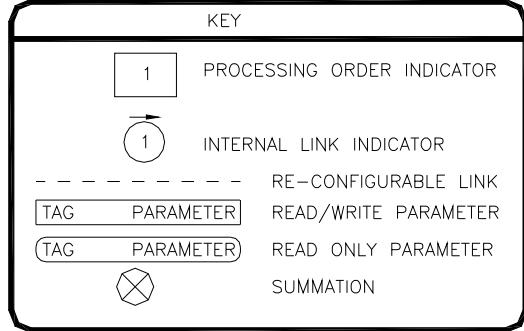

Figure 3: Software Block Diagram Key
Programming and adjustment of the Cortex[®] LT is accomplished by changing parameter settings via the one of the serial port COM connections. Each parameter has a descriptive name and a tag (or number) identifier. Parameters are grouped together in blocks according to their function. The following sections contain each software block diagram and descriptions of each parameter function. Refer to Figure 3 for key conventions that are used in the block diagrams. Each parameter is one of three types: Read-Only (RO), Inhibit Change while Running (ICR), or Read-Write (RW). ICR parameters can be changed only when the unit is not in the Run mode.